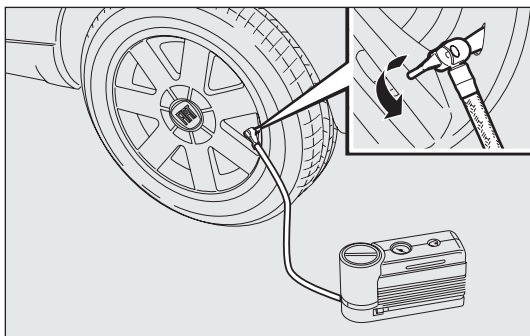
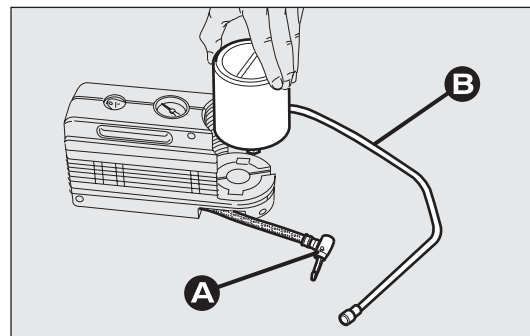

fig. 138
fig. 139
The compressor can be also used just for restoring pressure. Release the bottle connection A-fig. 139 and connect it directly to the tyre valve fig. 138; in this way the bottle is not connected to the compressor anymore and the sealing fluid will not flow into the tyre.
- ☐ disconnect the connection A-fig. 139;